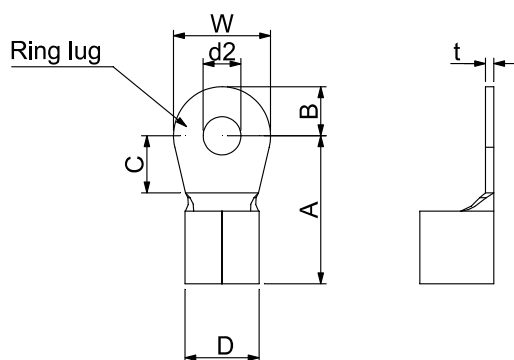

Figure 1.
- It needs following additional terminal when wiring. The additional terminal dimension should comply with the following figure 1.